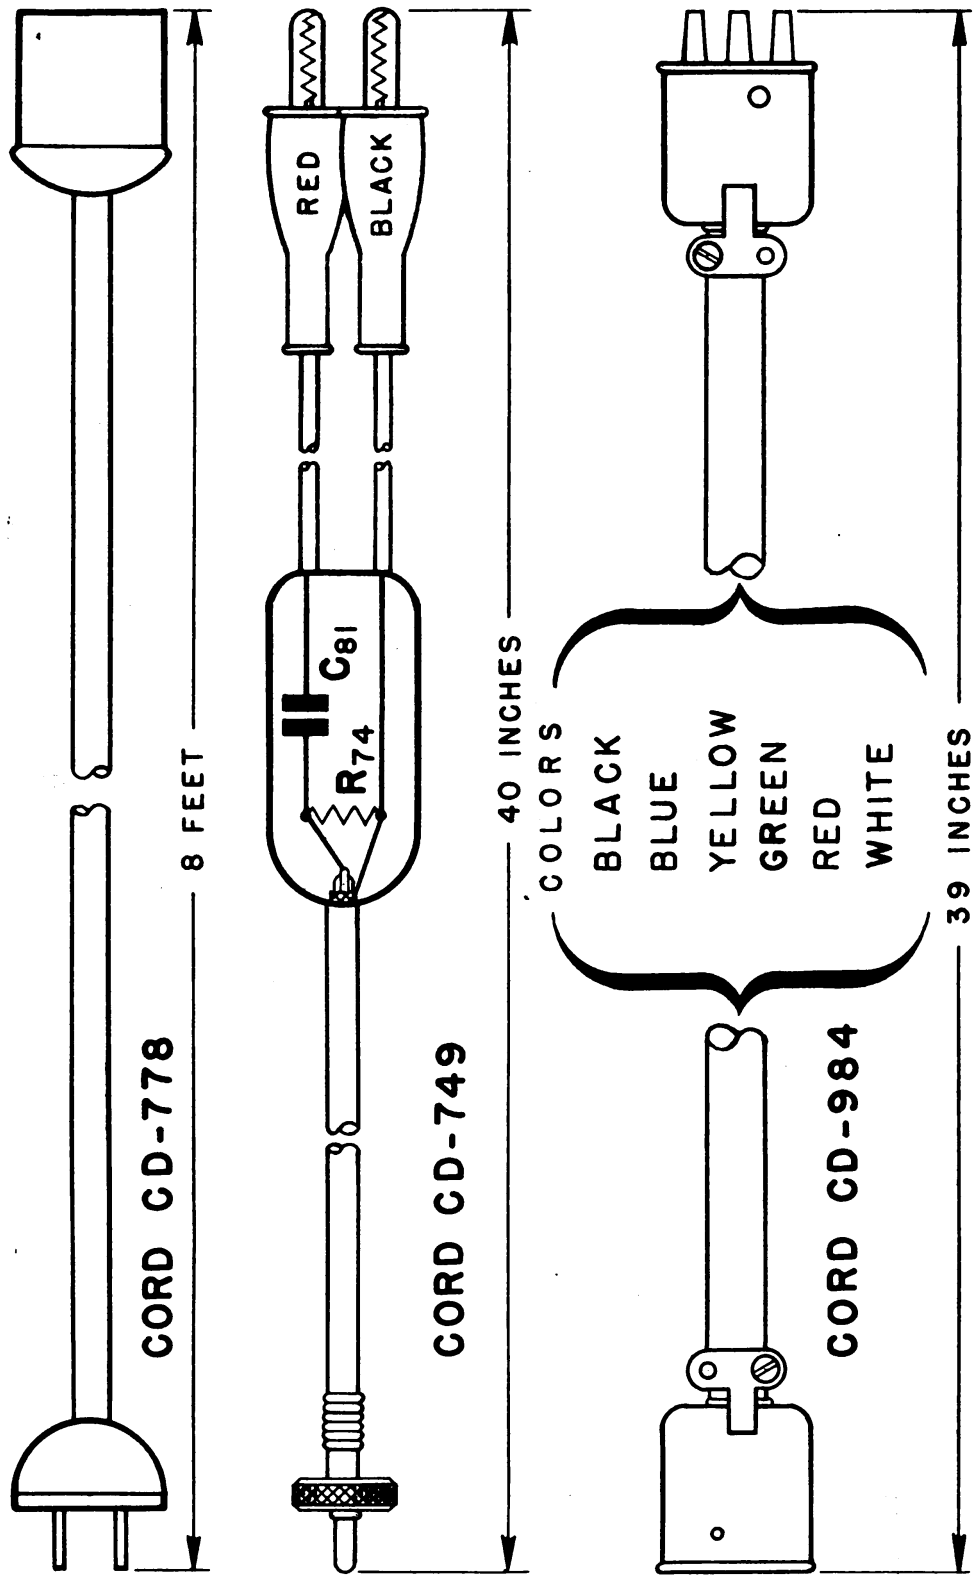

Figure 8—Cords
l. Cord CD-749, which has a characteristic impedance of 100 ohms, connects to input circuit of the attenuator through the high output terminal (figure 8).